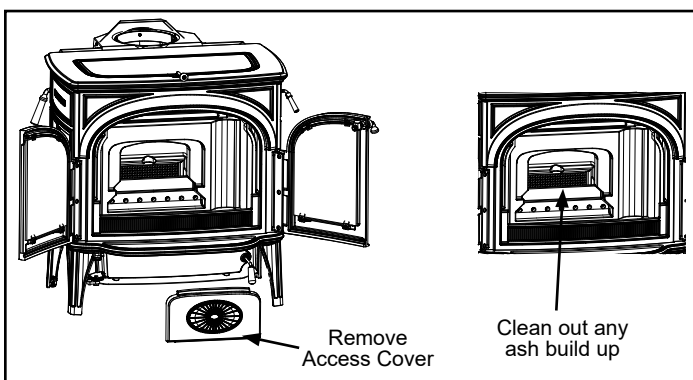

Figure 3.7 - Inspect and clean out ash accumulation behind the combustion system.
- Inspect for and remove ash build-up behind the combustion package. This should be done in conjunction with annual cleaning of the chimney connector. Inspect the passage behind the combustion package (a mirror will be helpful) and vacuum away ash using a flexible vacuum hose inserted in the passage, Figure 3.7.